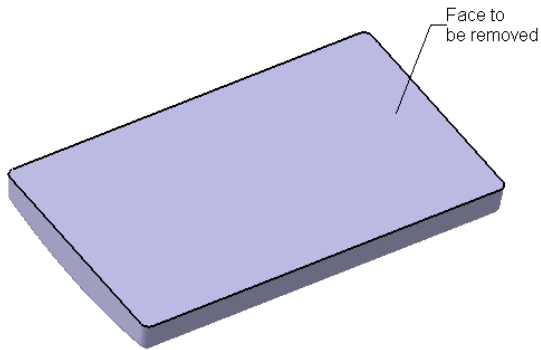

Figure 5-100 Face to be removed
- e. Shell the model using the **Shell** tool by removing the bottom face of the model, refer to Figures 5-100 and 5-101.
2. Select the face to be removed, as shown in Figure 5-100, and set the value of the **Default inside thickness** to **2**.